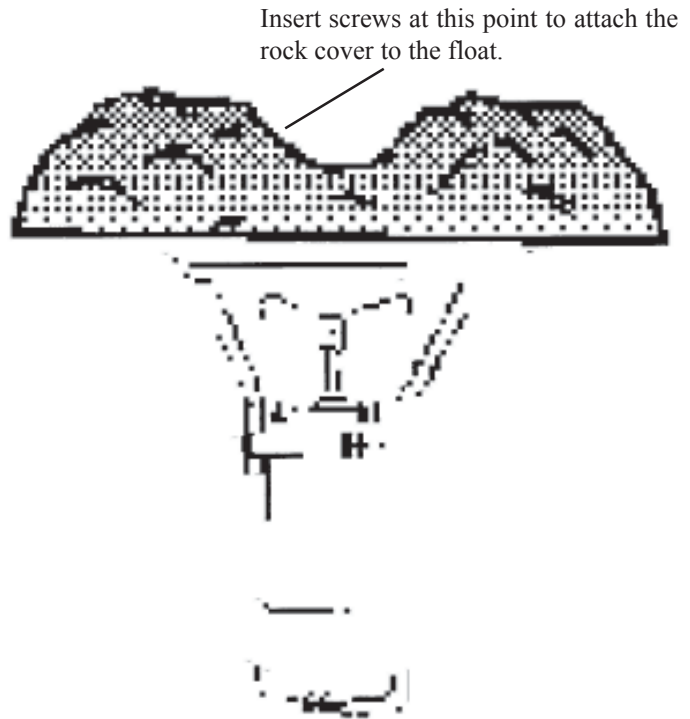

Figure 11
C. Insert the two Otter Rock tie down bolts into the holes in the rock cover and attach the cover to the float --see Figure 11.